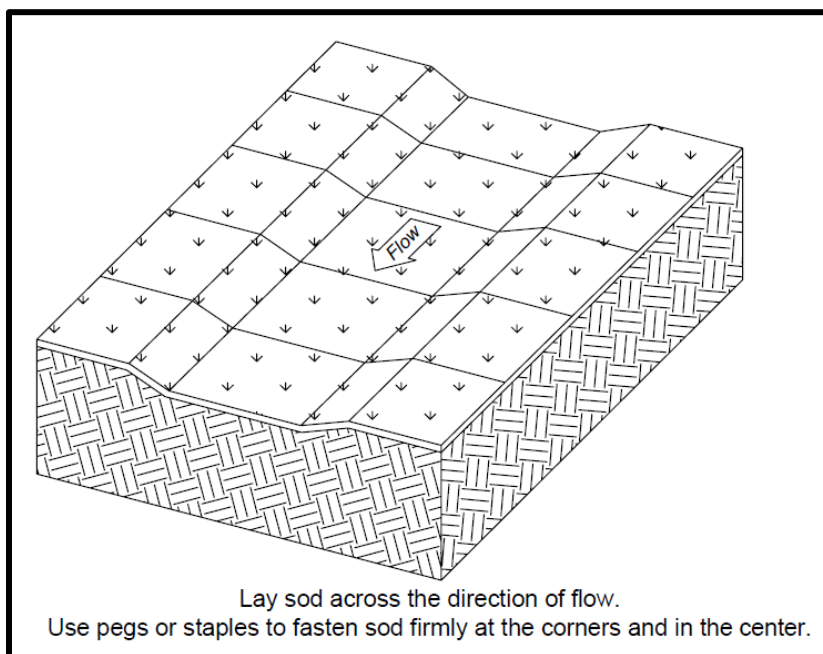

Figure 6.12b Installation of Sod in Areas with Channel Flows.
2. Lay sod strips perpendicular to the direction of flow, with the lateral joints staggered in a brick-like pattern. Edges should butt tightly together (Figure 6.12b).